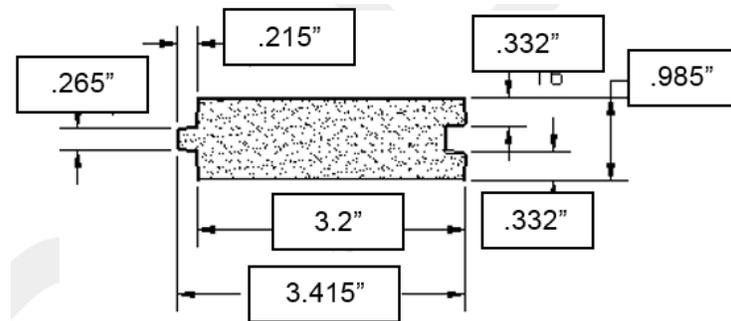

Figure 1 – AZEK Porch Board
3.3 AZEK Porch Boards measure 1" thick with a 3.2" exposure width (3.415" overall width). See Figure 1.